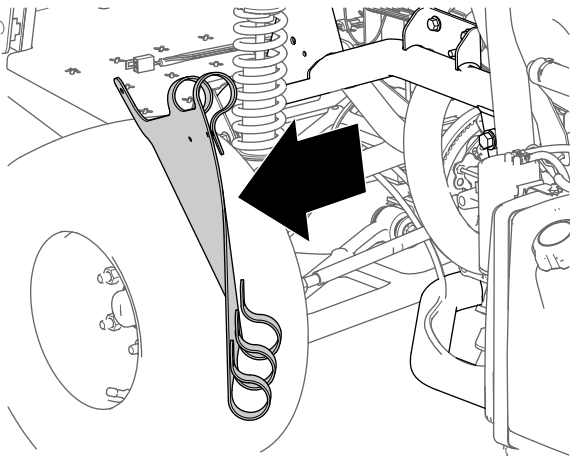

Figure 13
5. Remove the inner-fender shroud from the machine (Figure 13).